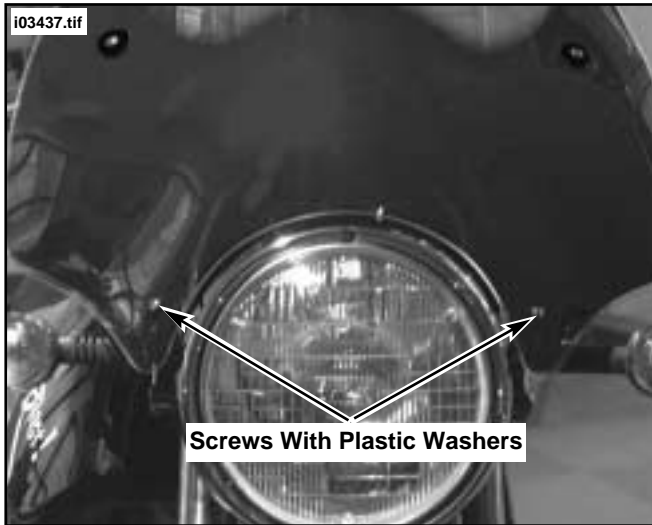

Figure 5. Install Windshield Lower Mount Screws
- See Figure 5. Using two screws and two washers saved in Step 1, insert screws through plastic washers, windshield and rubber washers (Item 8d) and into lower wellnuts. At this point, just snug screws.